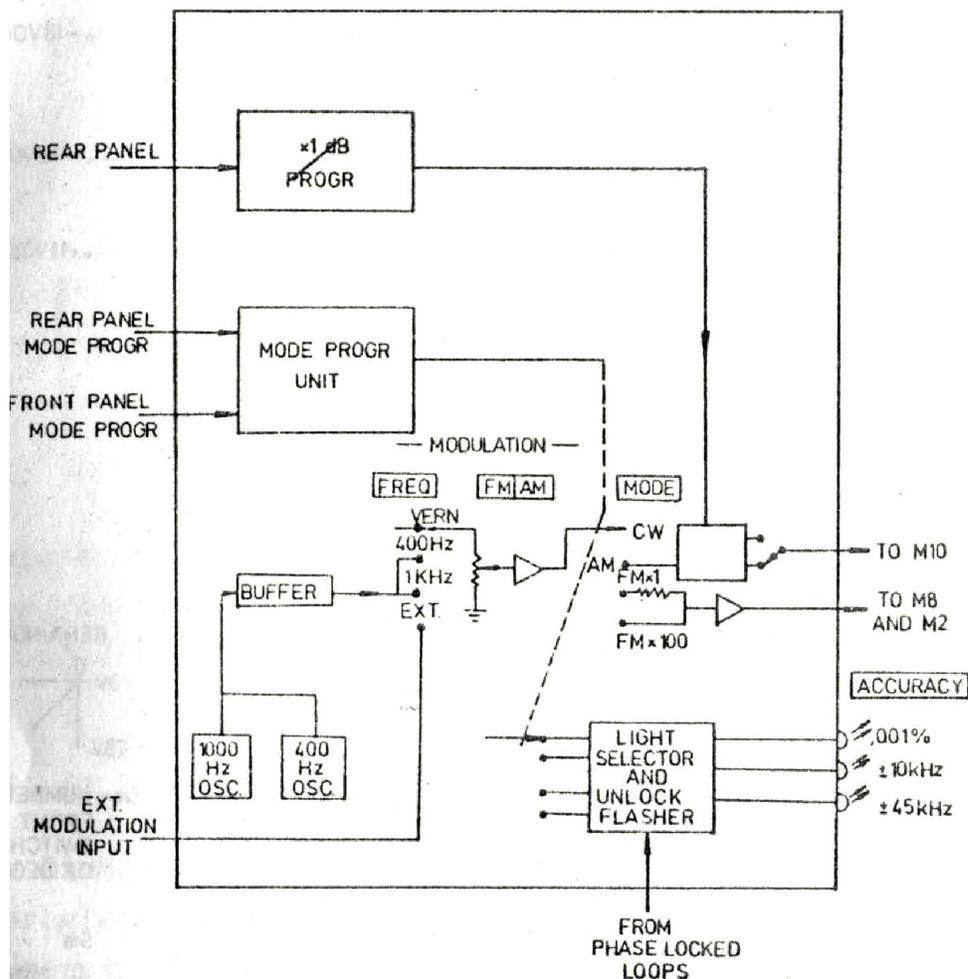

FIG. 8
4.6. Modulation unit M11 (Fig. 8)